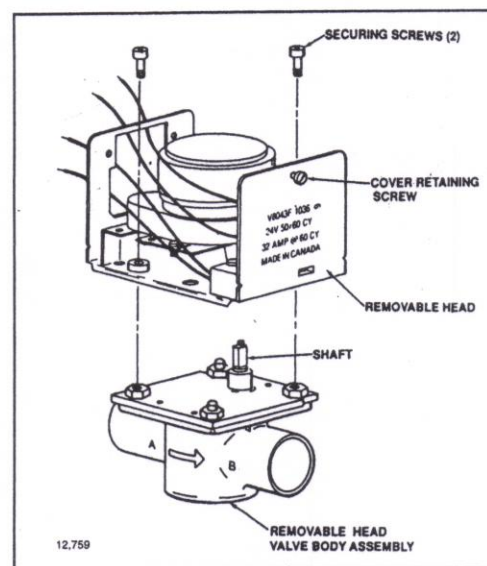

Fig. 6
4. Use a flat screwdriver to loosen the 2 screws securing the power head to the valve body and lift power head off the valve body (see Fig.6).
4. Make sure that the manual opening lever is locked in the “MAN. OPEN” position. Fit the power head onto the valve body, ensuring that the shaft seats correctly (see Fig.6). The power head should be aligned so that the manual opening lever is at the port “A” end of the valve body. Secure the power head to the valve body with the 2 screws.